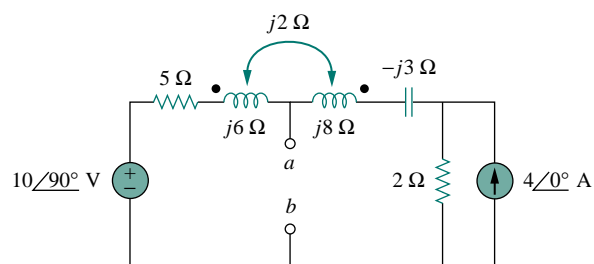

Figure 13.81 For Prob. 13.11.
- 13.11 Obtain the Thevenin equivalent circuit for the circuit in Fig. 13.81 at terminals $a-b$.